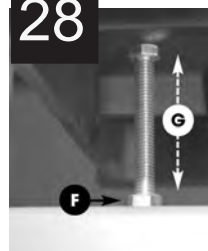

FIGURES 26, 27 and 28: ANGLE POINTER ADJUSTMENT
1. Loosen LOCK KNOBS (C) and LOCK KNOB (B).
2. Place a COMBINATION SQUARE (D) flat on the table with the heel of the square flat against the SAW BLADE (E). See Figure 26.